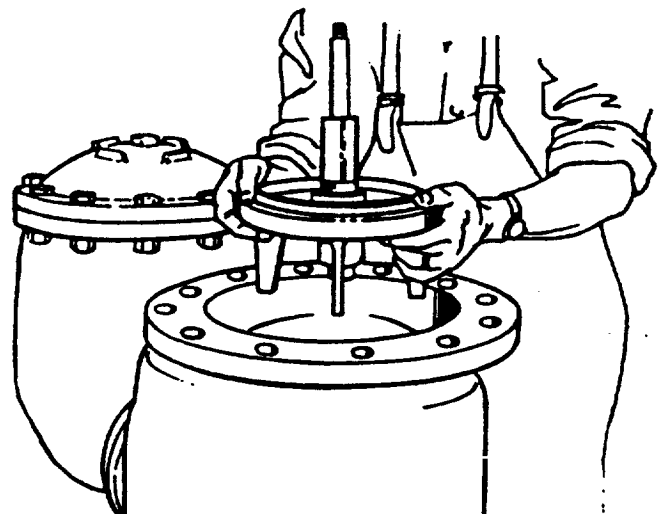

**FIGURE 12
- e. Remove spring retainer nut (Fig. 12).